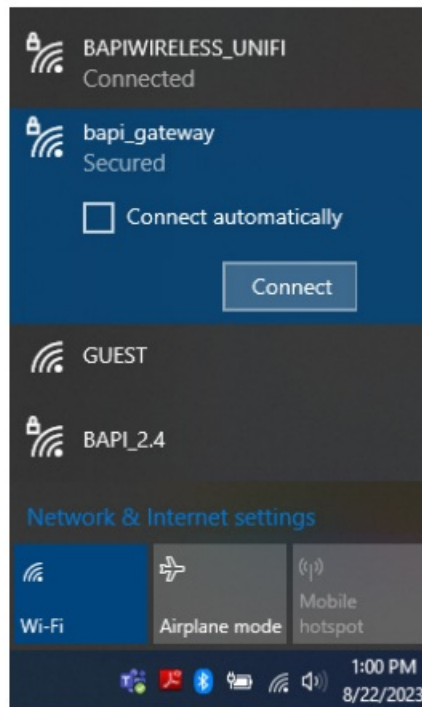

Fig. 2: Gateway on Wi-Fi Network
1. With the gateway in SoftAP mode as described above, open up the Wi-Fi settings on your mobile device or computer and select "bapi_gateway" from the list of available networks (Fig 2). If your device asks for a password or network security key, enter "changebp".